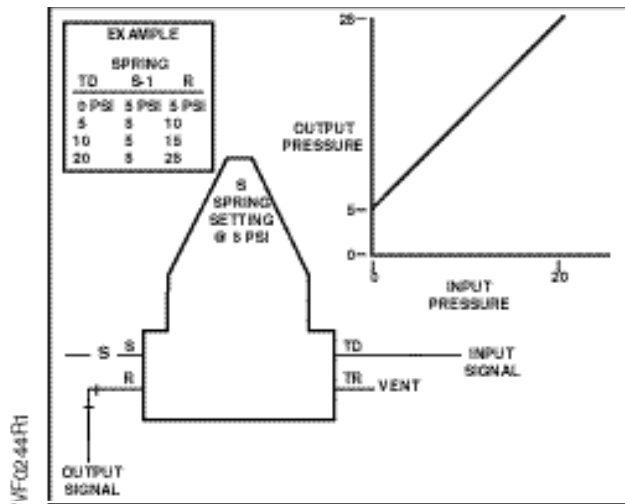

Figure 5. Signal Advancing Relay.
- Signal advancing relay (See Figure 5).
Signal Advancing Relay Output pressure will exceed input pressure by a constant value (as adjusted with spring S-1) except as limited by available air supply at S-port (Figure 5).